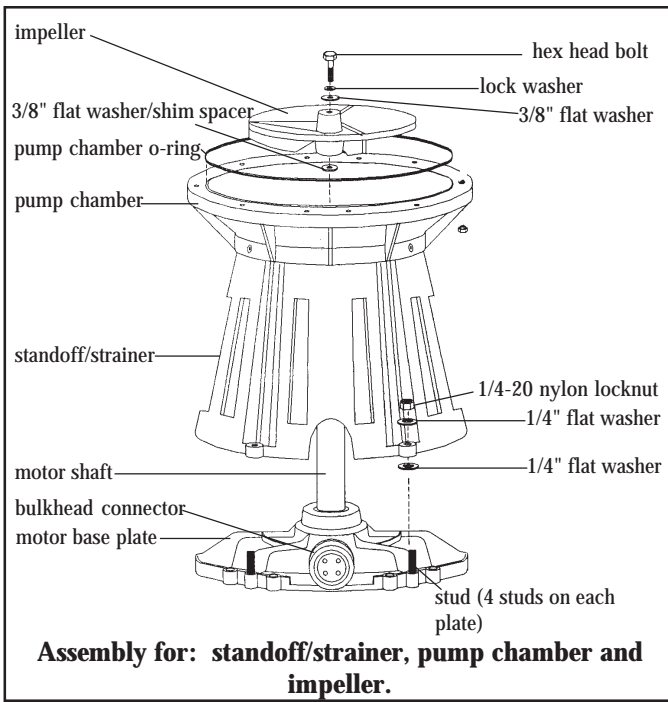

Figure 12
A. Installing standoff/strainer, pump chamber and impeller - see Figure 12
1. Place a 1/4" flat washer over each of (4) studs on the motor base plate.
2. Install the pump chamber/standoff strainer assembly onto the motor base plate with (4) additional 1/4" flat washers and (4) 1/4" nylon locknuts.